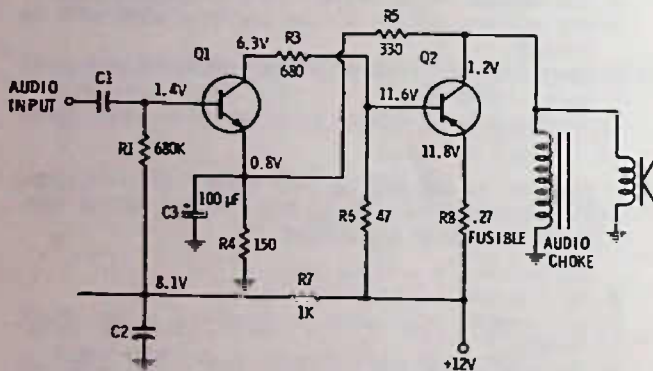

Fig. 12-18. Circuit for Questions 28 through 34.
28. Fig. 12-18, is a direct-coupled circuit of a type used in some car radios. Note that Q1 is an npn and Q2 a pnp. If the current increases through Q1 for any reason,
29. In Fig. 12-18, if Q1 should short (collector to emitter) the current
30. In Fig. 12-18, R7 and C5 isolate the bias resistor, R1, from the +12-volt line. This kind of circuit is normally called
31. Looking at the circuit in Fig. 12-18, why do you suppose that R3 is needed?
32. In Fig. 12-18, the purpose of C3 is to
33. In Fig. 12-18, a fusible resistor is used in the emitter of the output transistor (Q2). This resistor, when used, will burn open (like a fuse) if the Q2 transistor current becomes excessive or if Q2 should short. If you were to find this resistor open and you wished to check Q2 to see if it were shorted, you would measure with an ohmmeter between
34. In Fig. 12-18, the transistors are: